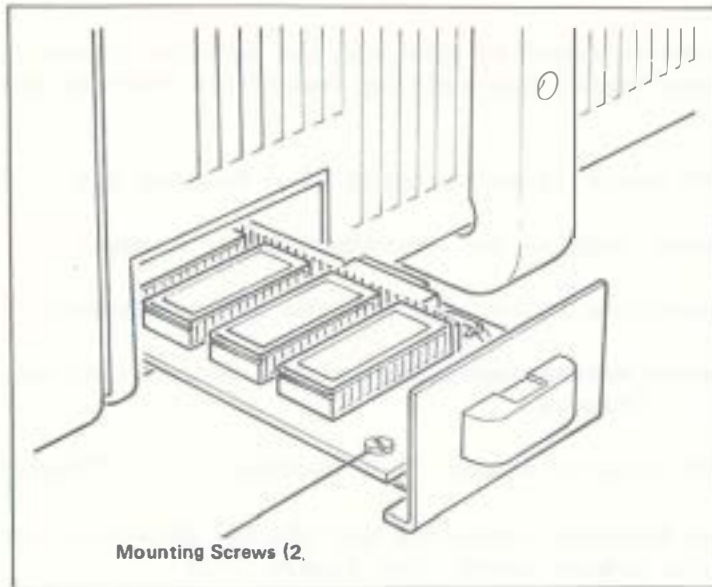

Figure 5-12. Read Only Memory (ROM) Plug-In Drawer
6. Disconnect the three DC connectors from the expansion board. See Figure 5-12.
The Read Only Memory (ROM) card plugs into the planar board and is located in the small drawer on the right side of the processor unit. See Figure 5-12.
3. Grasp the drawer's handle and pull the drawer straight out of the processor unit. See Figure 5-12.
4. Remove the ROM card from the drawer by unscrewing the two mounting screws and lifting it out. See Figure 5-12.
1. Place the ROM card in the drawer and secure it with the two mounting screws. See Figure 5-12.